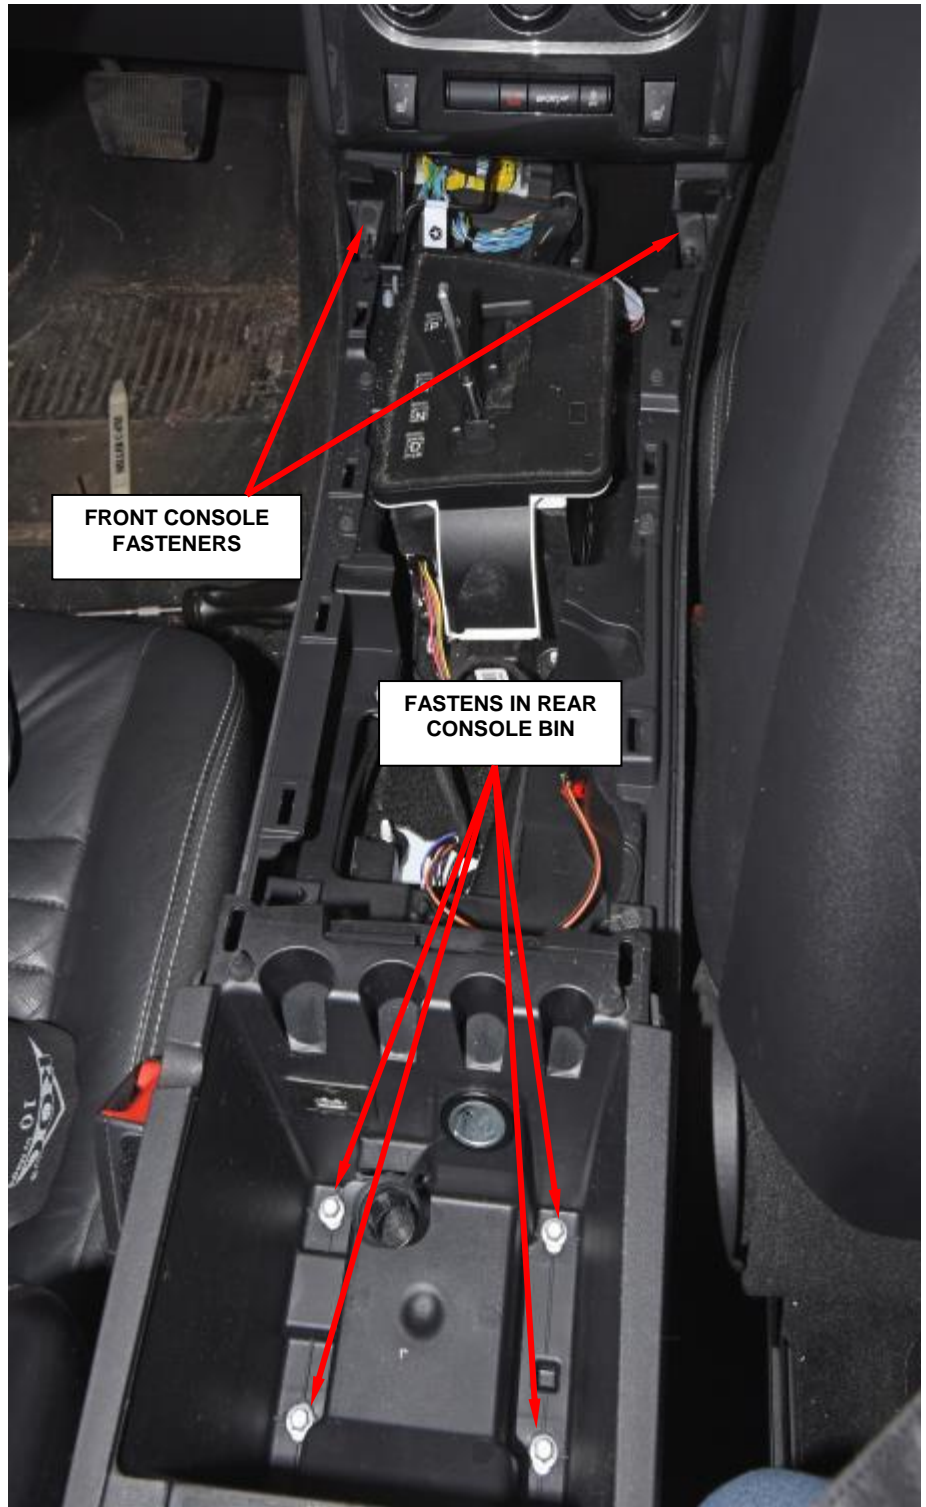

Figure 46 – Floor Console
13. Remove the four fasteners from the rear bin that secure the console to the floor panel transmission tunnel (Figure 46).
14. Remove the two fasteners that secure the front of the console to the instrument panel (Figure 46).